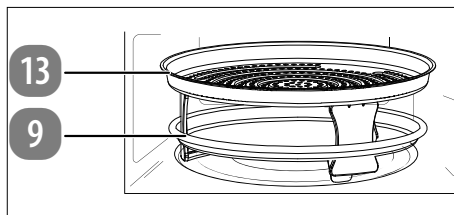

Fig. 7 – Insert baking tray/air fry pan
- ▶ Place the baking tray (9) in the well on the base of the cooking compartment.
- ▶ When using air fry mode, also place the air fry pan (13) on the baking tray (9) (see Fig. 7).